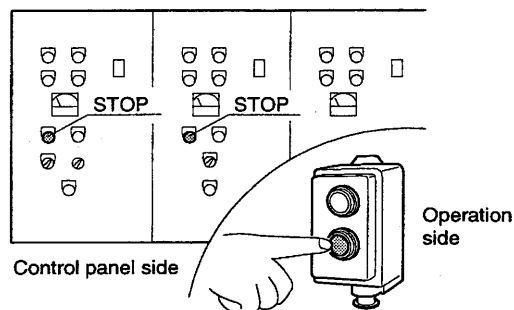

Fig. 9
- * Check the position of power supply beforehand. (Fig. 9)